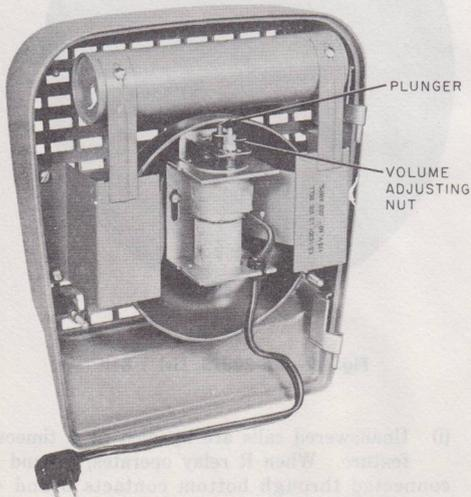

Fig. 8—KS-16301, List 3 Bell
3.09 Signals, KS-16301 (Fig. 8, 9, 10, 14, 15, 16, and 17)
5.01 The KS-16301, List 3 (vibrating bell) has a volume adjustment. On the Wheelock Signal Company-type, the adjustment is a hexagonal nut on the rear of the signal (Fig. 8). The Sperti-Faraday Company-type adjustment is on the back of the bell resonator. The direction of adjustment is stamped near the adjusting nut or screw. Table D shows operating currents.